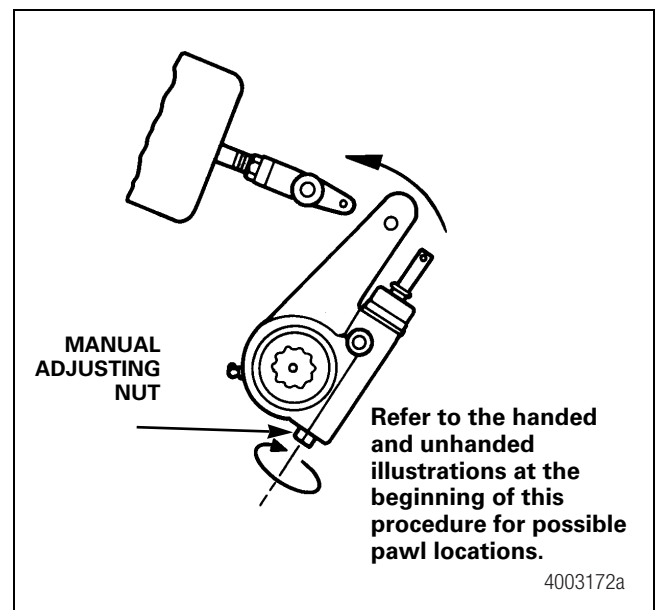

Figure 3.14
6. Remove a conventional pawl or pry a pull pawl at least 1/32-inch (0.794 mm) to disengage the teeth. Rotate the manual adjusting nut **CLOCKWISE** to move the slack adjuster away from the clevis. Figure 3.14.